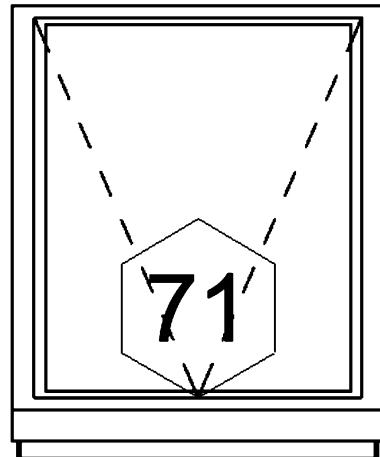

FIGURE 8-4.4 Enlarged view of skylight
14. Select the skylight's tag. You should see a symbol appear near the bottom of the tag; this is the *Move* icon (Figure 8-4.4).